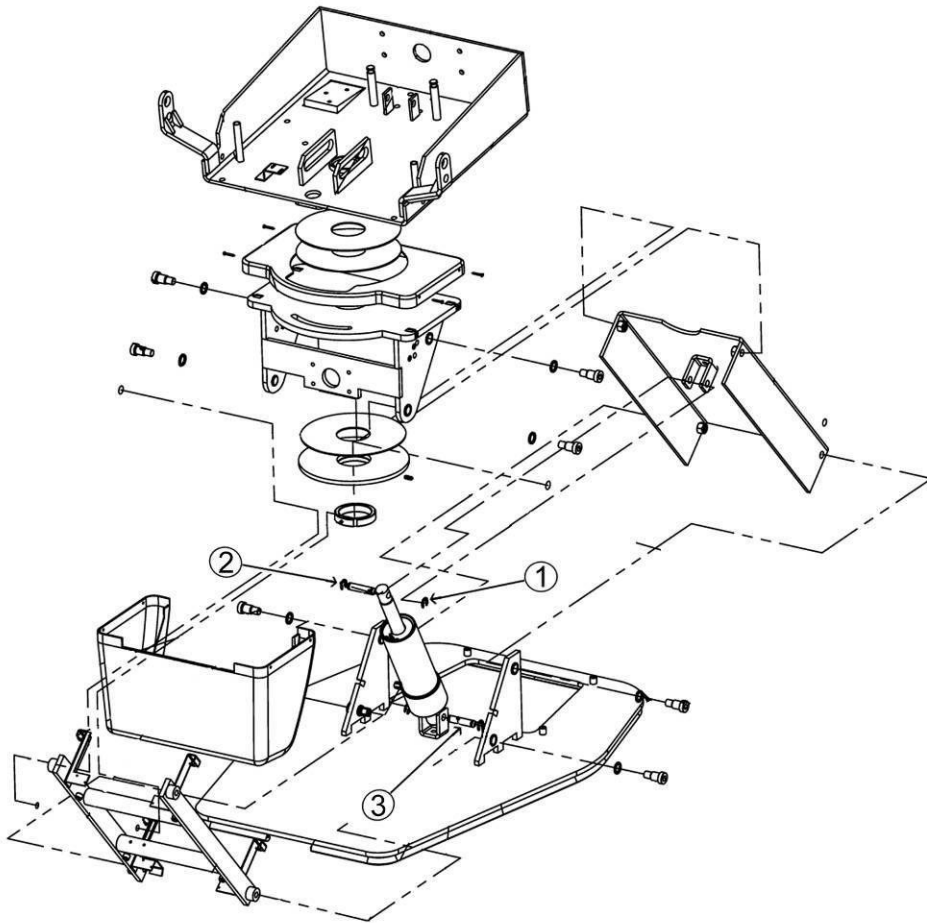

Figure 15
Refer to Figure 15
9. Remove E-Clip on one side of top pin of piston. See figure 15, item 1.
10. Holding base piston. Remove upper pin. See figure 15, item 2.
13. Remove lower piston pin. See figure 15, item 3.